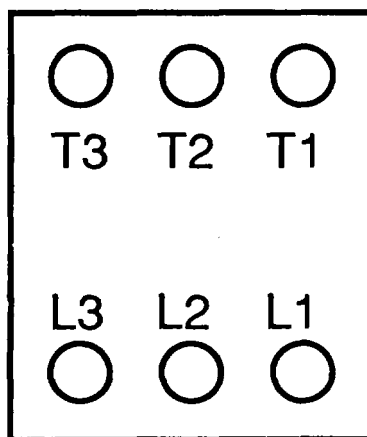

Figure 4-25. Contactor (K1, K2, K7, and K8)
- (1) Contactor (K1, K2, K7, and K8) (See Figure 4-25).